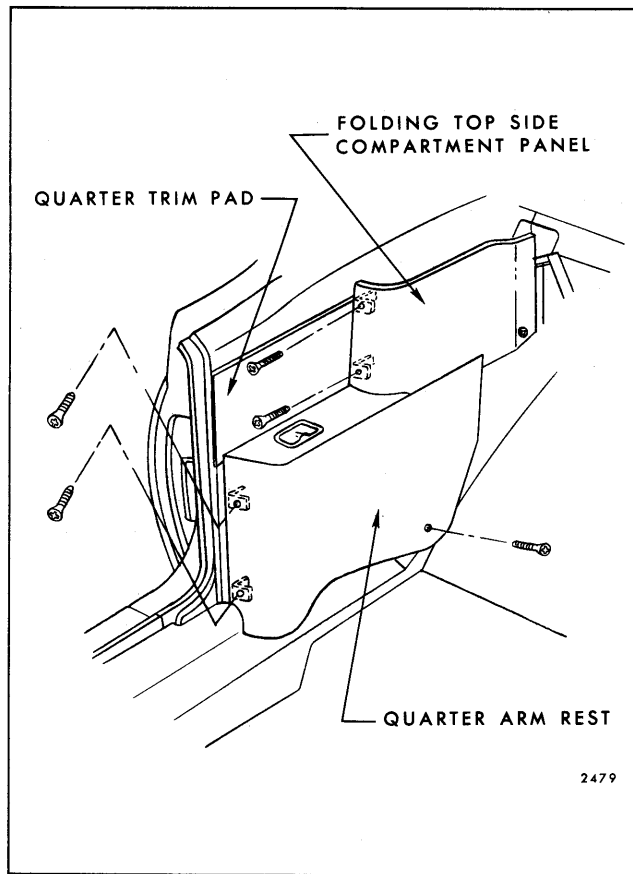

Fig. 14-18—Rear Quarter Trim - "67" Styles
- NOTE:** On all convertible styles except Cadillac, the floor mounted arm rest is subassembled to the folding top compartment side trim panel and must be removed as an assembly (Fig. 14-18).
- c. On convertible styles, remove exposed screws securing folding top compartment side trim panel (Fig. 14-18).